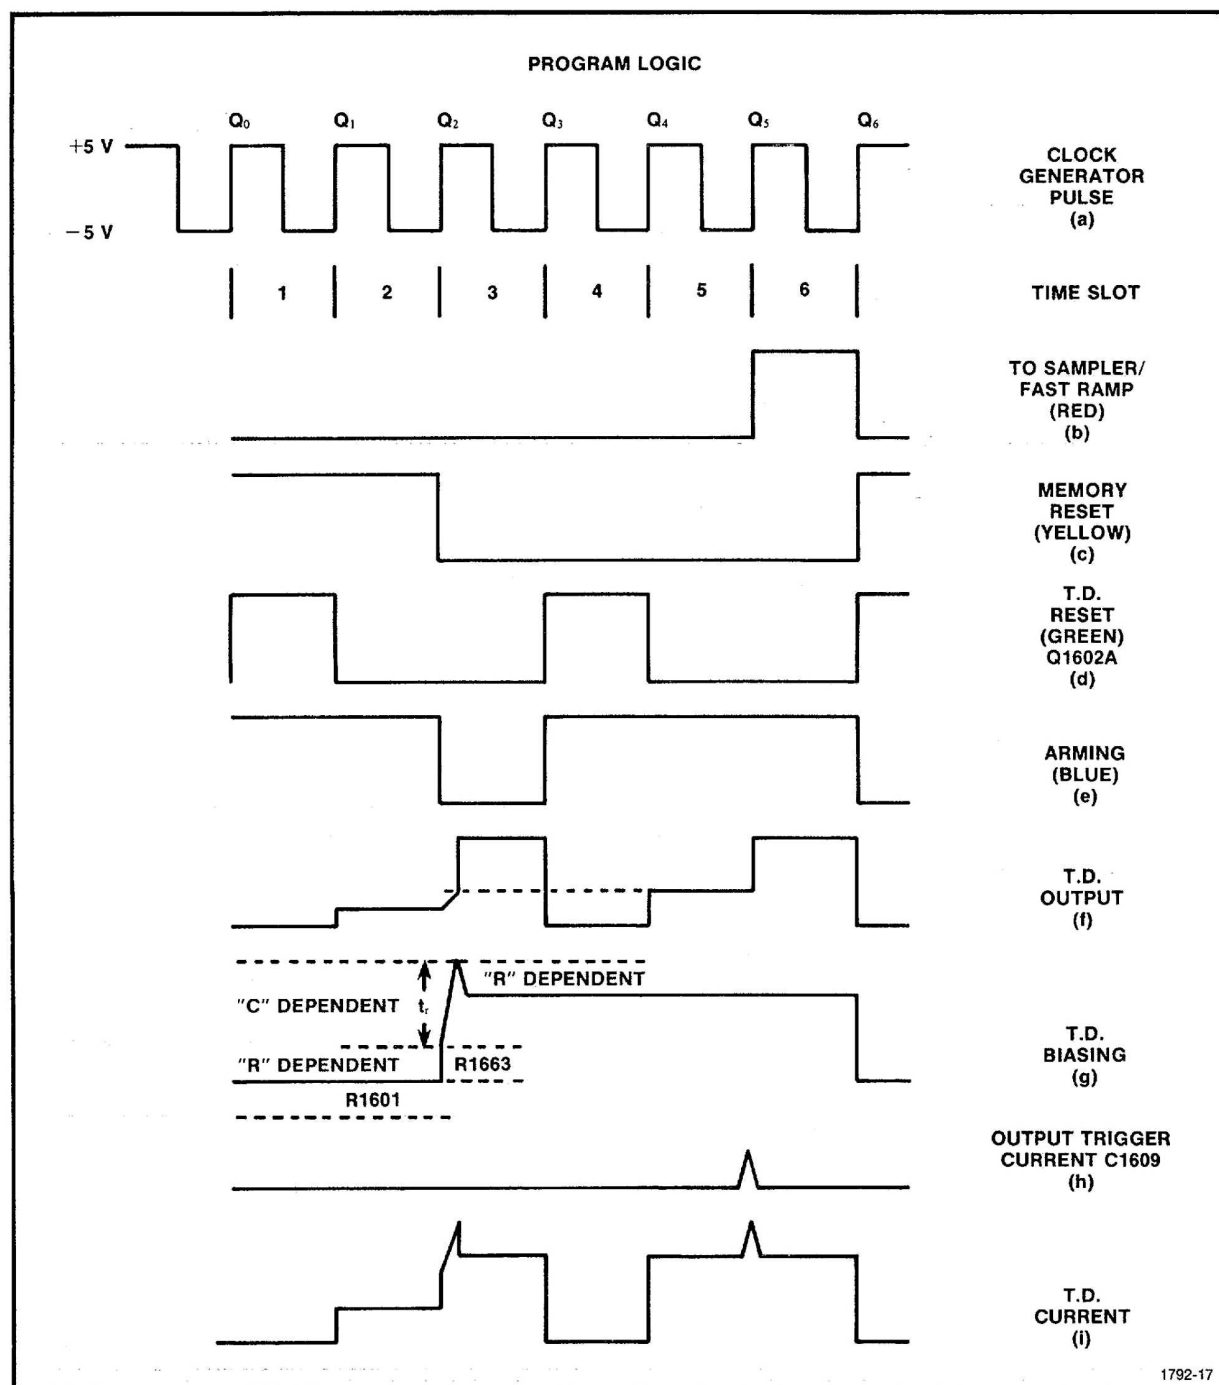

Figure 3-3. Program Logic Cycle.
The Pulser uses a two step process to generate a test pulse. Two steps are used to automatically bias the tunnel diode. The first step checks the peak current point of the tunnel diode then stores the firing voltage level on Memory Capacitor C1596. The second step uses the voltage stored on C1596 and an additional pulse (TD TRIGGER) to fire the tunnel diode and transmit the test pulse to the CABLE connector. This peak current check is performed for each Programming cycle. Thus, the automatic bias corrects for tunnel diode aging, thermal effects, and loading variations. Biasing action on the tunnel diode during each time slot is as shown in Fig. 3-3 and described as follows:
**Logic Programmer.** The Logic Programmer provides the needed logic sequence to allow automatic tunnel diode biasing and sampler synchronization. It consists of a divide-by-six counter, U1569, and gates U1575C, U1575D, and U1671. A cycle is completed after every six clock inputs (Fig. 3-3). Q1 starts going high at the start of the clock pulse train and remains high for three clock pulses, then goes low for the next three clock pulses.